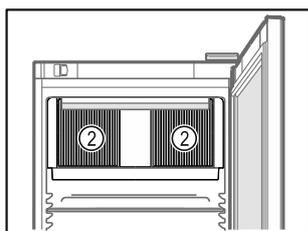

Fig. 60
- ❑ Ventilation slots Fig. 60 (2) for recirculation fan in the interior must be kept clear.